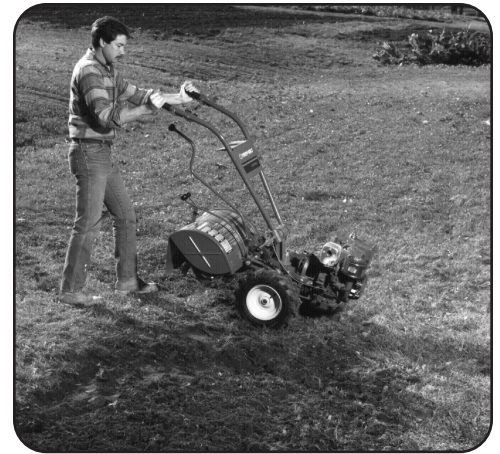

Figure 4-5
1. Find the balance point between the engine and the tines by lifting up the handlebars. See Figure 4-5.
5. Resume forward operation, and lift the handlebars until the tines are off the ground. Refer to Figure 4-5. Find the balance point between the engine and the tines. Then push the handlebars in the direction of the turn. Be very careful to keep feet and legs away from the tines, which should be disengaged. Let the powered wheels do the hard work.